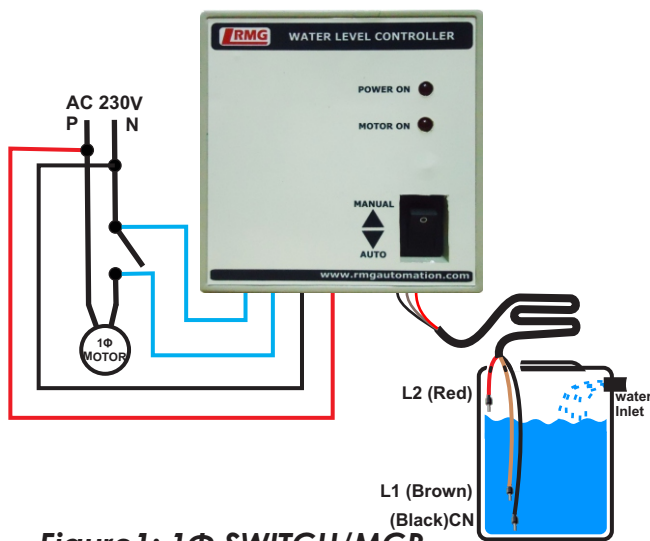

Figure 1: 1Φ SWITCH/MCB
Step 2: Connect AC 230V to Red and Black wires of the controller respectively (refer figure 1 and 2)
Step 3: For switch or MCB, Connect blue pair wire of the controller to the switch/MCB of the motor in parallel as shown in figure 1.